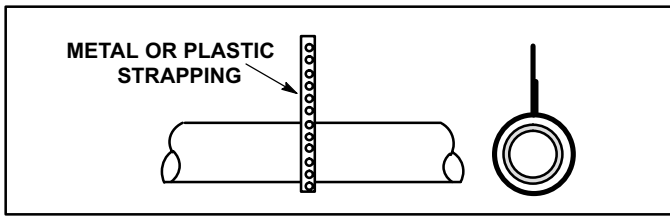
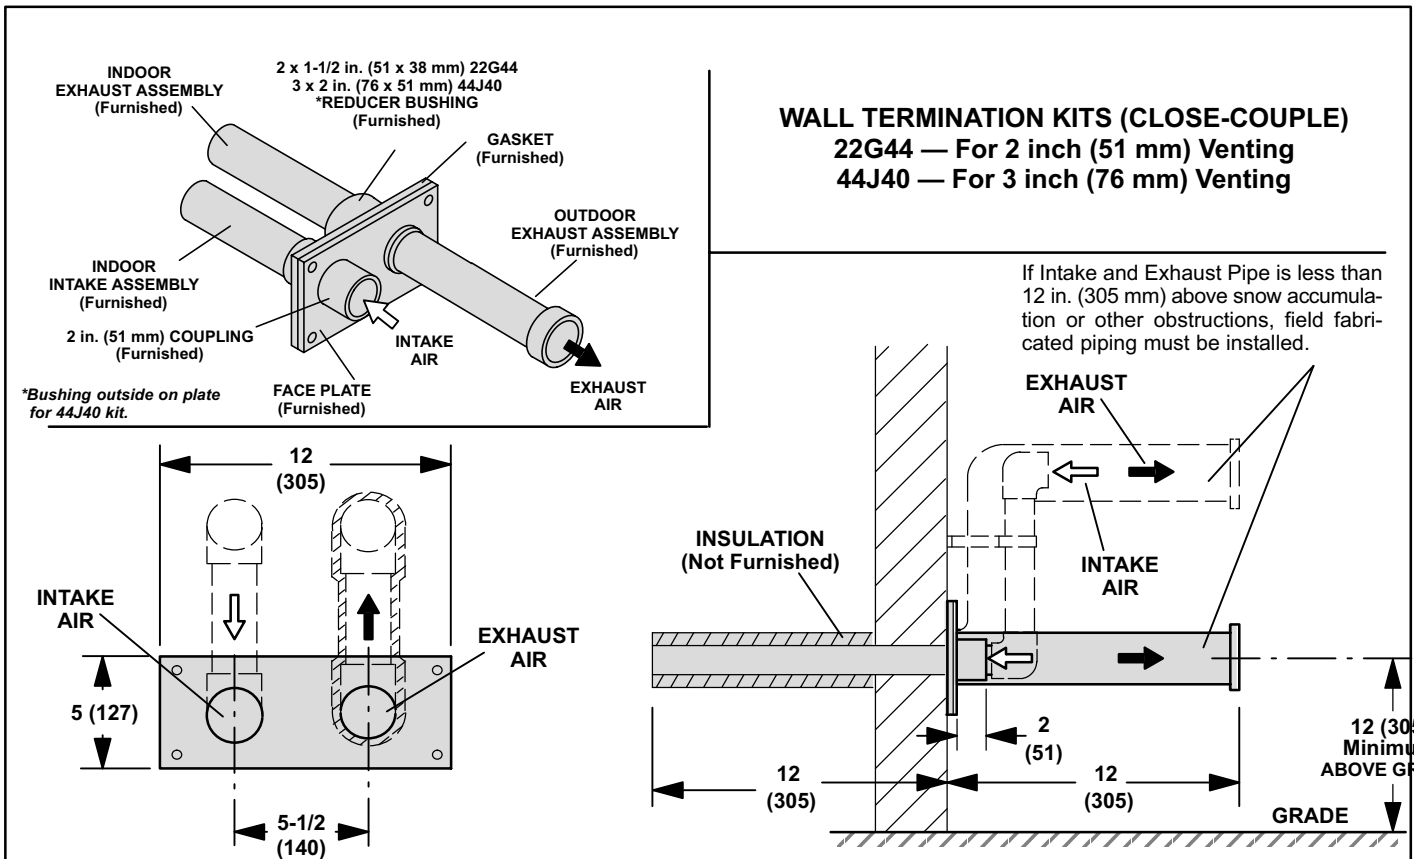

FIGURE 41
FIGURE 45
- 8 - If intake and exhaust piping must be run up a side wall to position above snow accumulation or other obstructions, refer to figure 45 for proper piping method. Piping must be supported every 3 ft. (.91m) as shown in figure 41 and must be insulated. When exhaust and intake piping must run up an outside wall, the exhaust piping is reduced accordingly after the final elbow.
- 10- Suspend piping using hangers at a minimum of every 5 feet (1.52m) for schedule 40 PVC and every 3 feet (.91m) for ABS-DWV, PVC-DWV, SDR-21 PVC, and SDR-26 PVC piping. A suitable hanger can be fabricated by using metal or plastic strapping or a large wire tie. See figure 41.